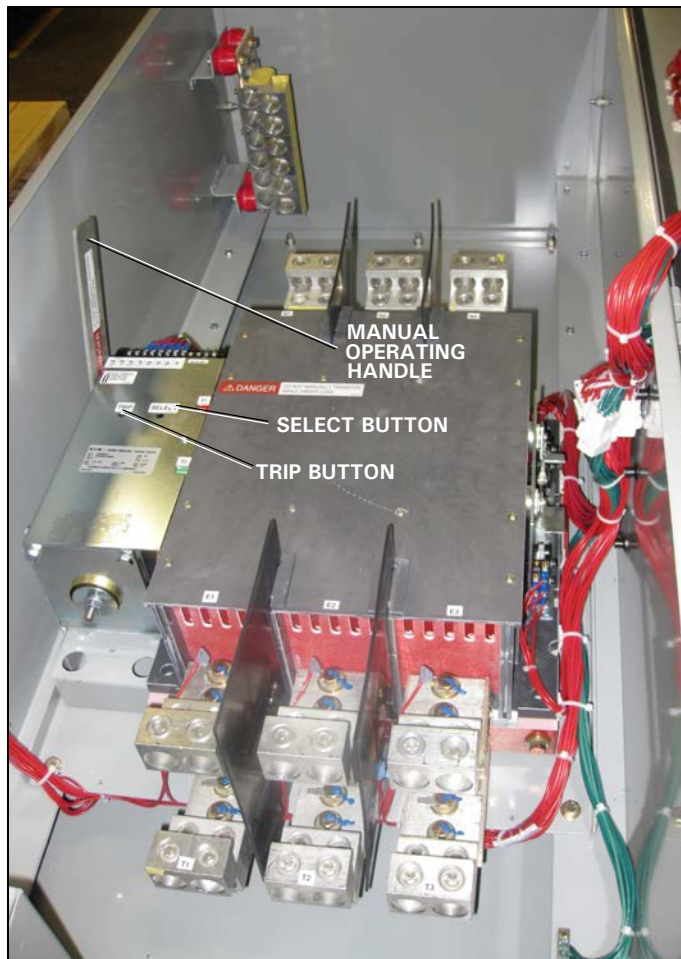

Figure 20. Troubleshooting Manual Operation of the Transfer Switch
- Step 3:** Attach the handle to the manual lever (see Figure 20) and rotate the lever up to go to Source 1.